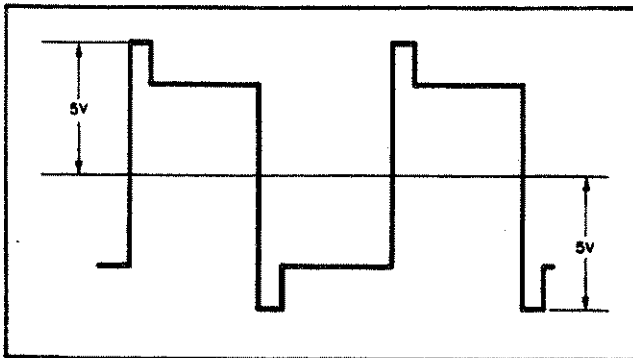

Figure 5-15. Overcurrent Protect Test Waveform
- Turn on BPS/A and observe waveforms (see Figure 5-15). Overshoot should not exceed 5V p-p.